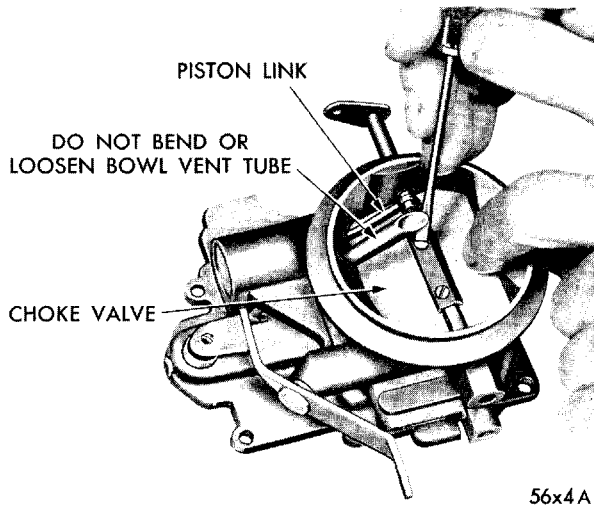
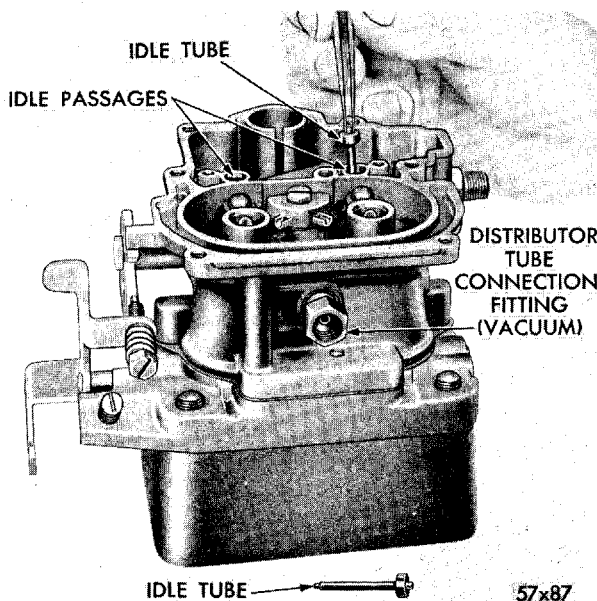

Fig. 5—Removing or Installing Choke Valve
Fig. 6—Removing or Installing Idle Tubes
(7) Remove the screws that hold the choke valve and the choke piston link bracket to the choke shaft, as shown in Figure 5. **These screws are staked to prevent loosening, and extreme care is necessary to avoid breaking off in choke shaft.**
(8) Lift out choke valve, allowing link and bracket to hang, then withdraw the choke shaft and lever out of the air horn.
(9) Lift the idle tubes out of the main body, as shown in Figure 6. (The idle tubes are interchangeable.)
(10) Invert the carburetor main body, and drop out the accelerator pump inlet check ball.